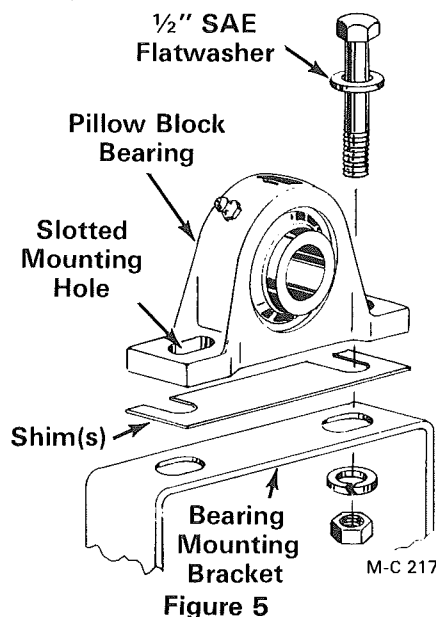

Figure 5
Lift up on the output shaft, remove and save the shim(s) from under the output shaft bearing, see Figure 5.
4. Lift up on the output shaft and place the shim(s) that were removed in disassembly on the output shaft bearing mounting bracket, see Figure 5. Bolt the bearing to the bracket loosely with  $\frac{1}{2}$ -13 x  $1\frac{3}{4}$ " capscrews (Grade 5), SAE  $\frac{1}{2}$ " flatwashers, lockwashers and hex nuts.